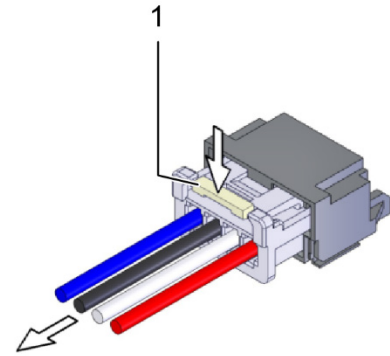

Fig. 28: Safety lock of connector
- Press safety lock (fig. 28, item 1) and pull gently the cable out to disconnect the connector of the battery modem.